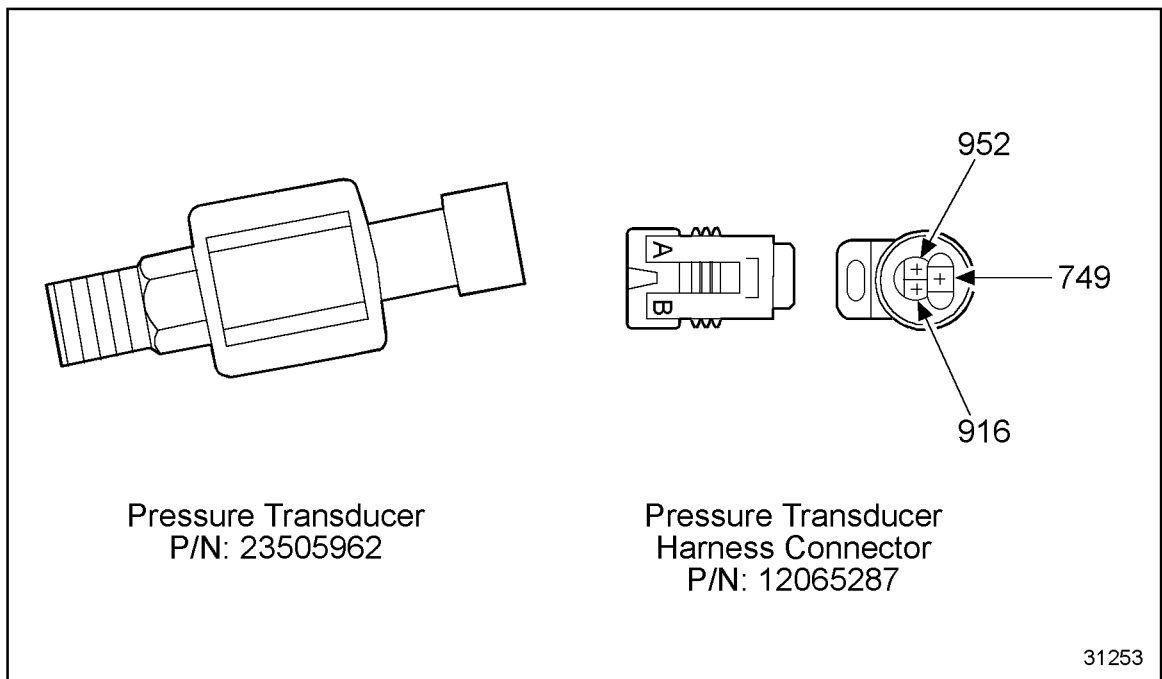

Figure 10-10 Pressure Transducer and Harness Connector
- [a] If DDR displays ON when Pressure Mode is selected, the mode selector (circuit #523) is functioning properly. Check for possible intermittent open or short to voltage source. Check for faulty pressure transducer. Refer to section 10.13.5. See Figure 10-10.